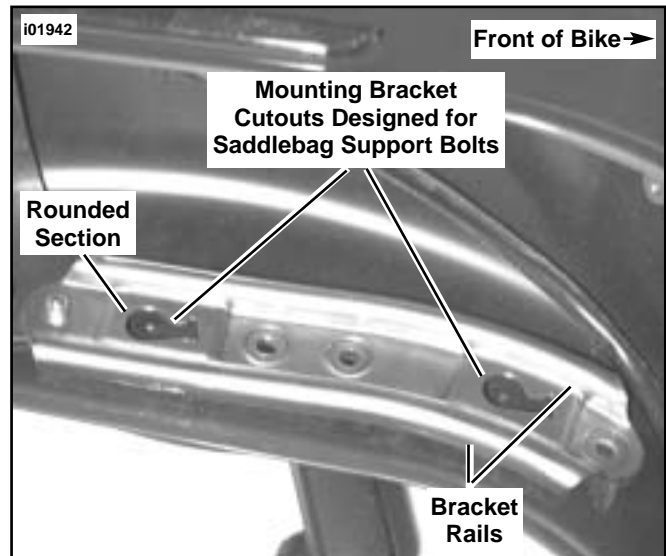

Figure 14. Bracket installed under Fender. (Left Side Shown from Inside Fender)
Figure 14 and lower portion of Figure 15 are provided for illustration purposes only. It is not necessary to remove fender for the following procedures.
3. See Figure 14. Locate the rounded sections of the stock fender-reinforcement cutouts, on the bracket mounted under the fender, that capture the rounded head of the support bolts when attaching saddlebag supports.
4. See Figures 14 and 15. Slide support (right side, shown in upper portion of Figure, left side shown from underneath in lower portion of Figure) up and under fender as shown. While aligning the rails on the support to the rails on the mounting bracket, engage rounded head of mounting bolt with rounded portion of bracket cutouts. See the lower portion of Figure 15. Consider these techniques to assist installation: